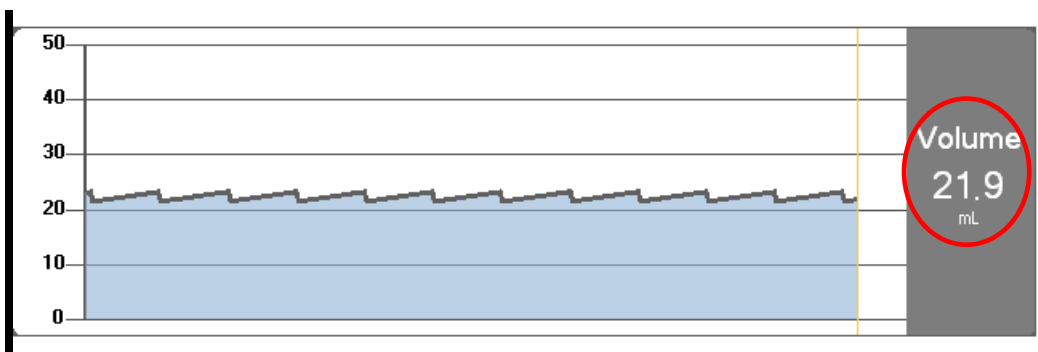

Fig 24
- The total infused volume (Fig 24);